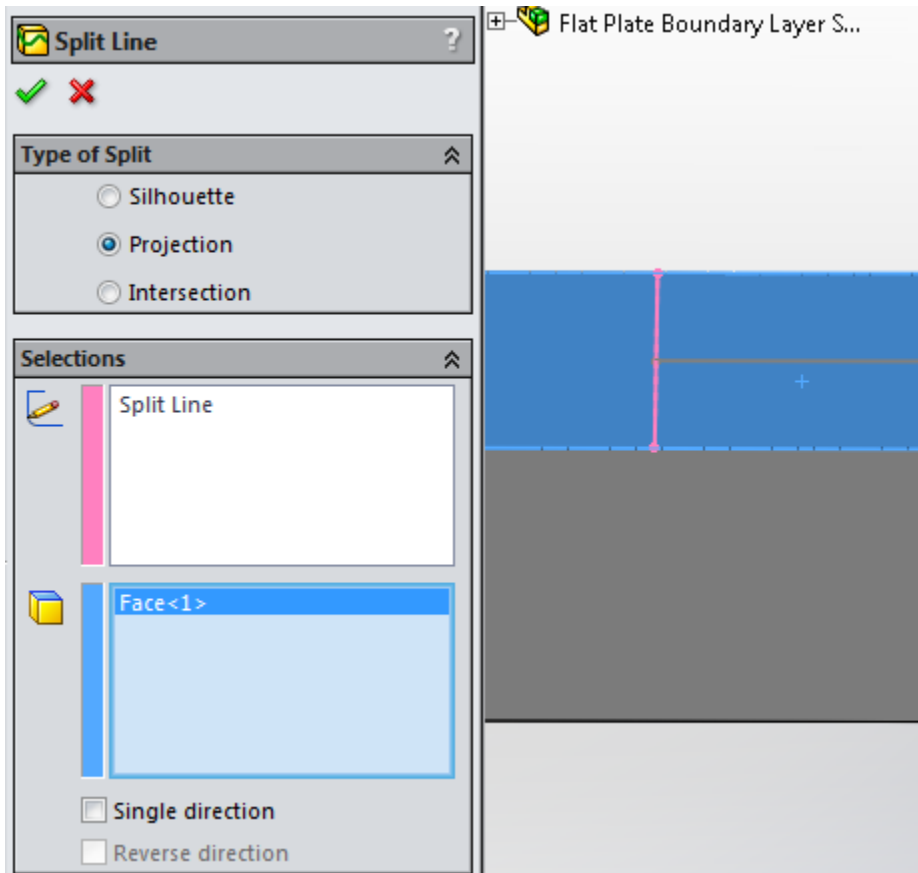

Figure 2.11b) Selection of surface for the split line
11. Rename the sketch in the **FeatureManager design tree** and call it **Split Line**. Click on the **Rebuild** symbol once again. Select **Insert>>Curve>>Split Line...** from the SolidWorks menu. Select **Projection** under **Type to Split**. Select Split Line for **Sketch to Project** under **Selections**. For **Faces to Split**, select the surface where you have drawn your split line, see figure 2.11b). Close the dialog . You have now finished the part for the flat plate boundary layer. Select **File>>Save** from the SolidWorks menu.